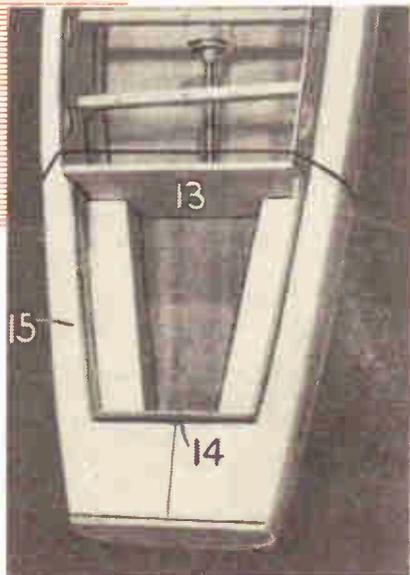

FIG. 9
The next stage is to add the forward, centre and stern bulkheads (12, 13 and 14) and the well sides (15), as seen in Fig. 8. Cover the stern of the boat (transom) with  $\frac{1}{4}$  in. wood and fill in the well and seats with  $\frac{1}{8}$  in. wood thus covering the joins in the hull. These parts are not shown on the design sheet, but should be cut to fit (see also Fig. 9).